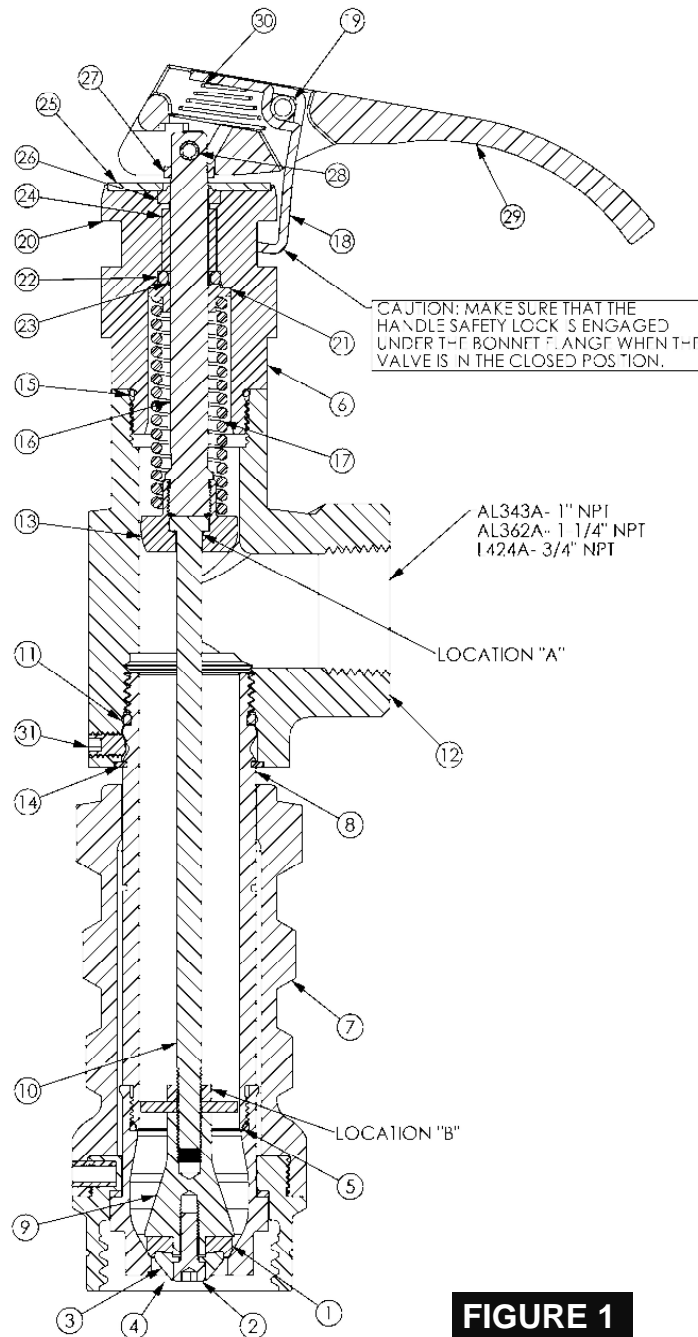

FIGURE 1
Removal of Valve for Repair or Replacement (Refer to Figure 1 for Item Numbers)
Disassembly Procedure for Repair (Refer to Figure 1 for Item Numbers)
1. At Location "A" of FIGURE 1, the Stem Extension ⑩ must rotate freely inside the Seat Retainer ⑬ and have a small amount of end play inside the bore. This interface is mechanically crimped and cannot be disassembled.
2. At Location "B" of FIGURE 1, the Disc Holder ⑨ should be shouldered snug against the Screw ②.
Assembly Procedure (Refer to Figure 1 for Item Numbers)